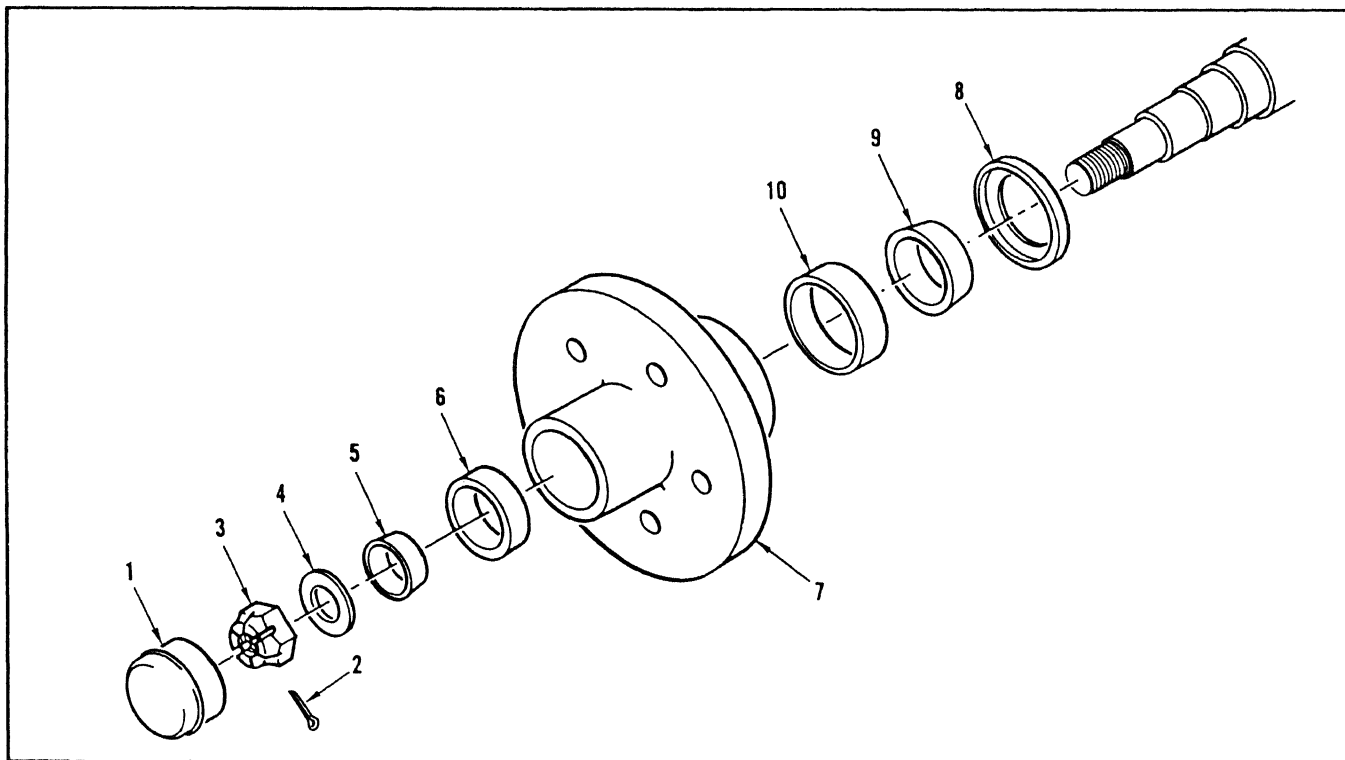

Figure 4-60. Wheel Bearings, Removal/Installation
(figure 4-60).
f. Installation of Wheel Bearings (figure 4-60).
- (1) Apply grease, MIL-G-10924 to bearing cone and install inner cups (10) and inner cones (9) and seal (8) in hub (7).